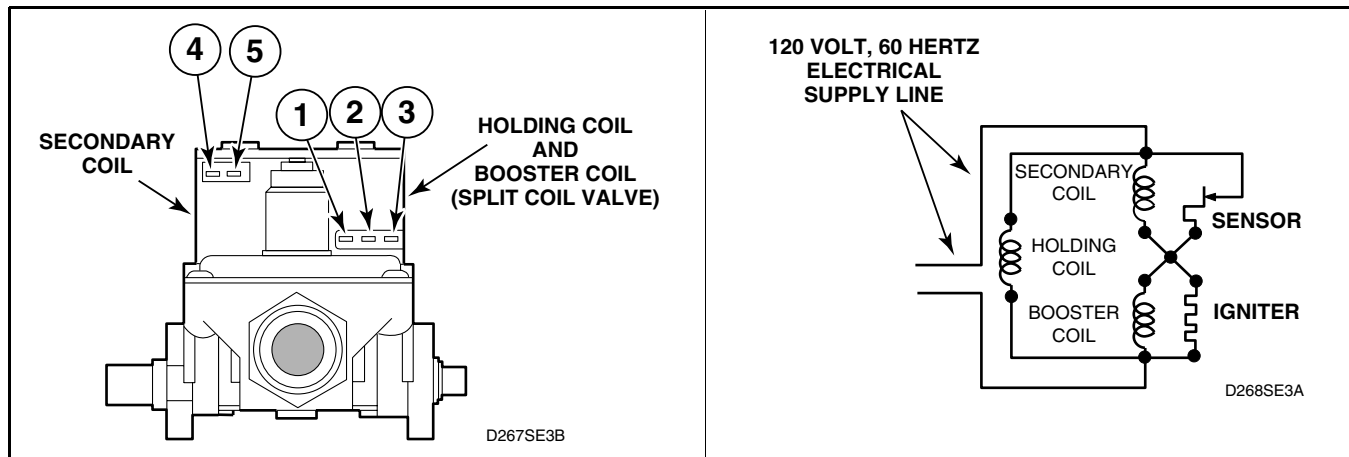

Figure 47
Refer to *Figure 47*
- Set test meter to read AC voltage and apply meter probes into terminals on the dryer harness plug that would correspond to terminals "1" and "2" on the coil. Refer to *Figure 47*. Meter should register line voltage in all Fabric settings, except FLUFF which should read "zero" VAC.